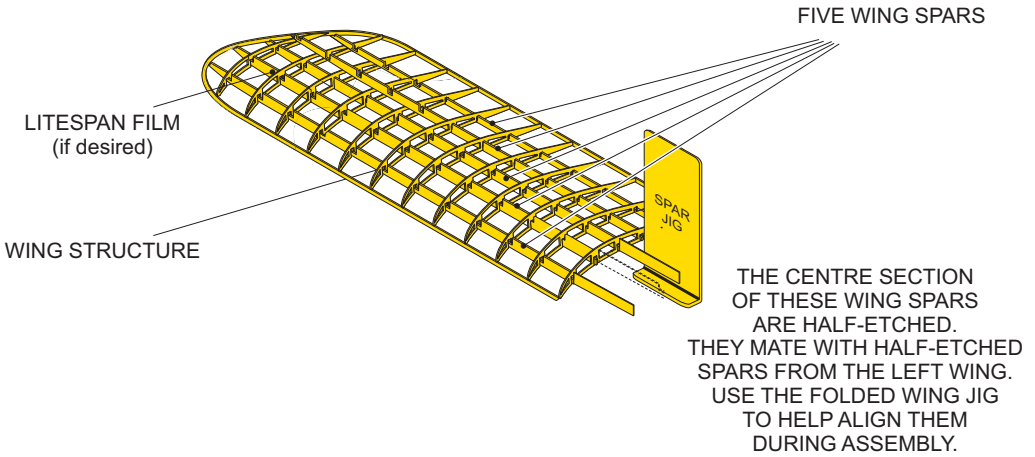

Figure 1
- C Engage the slots in the five spars in the slots in the ribs of each wing (see Figure 1). Make sure that they are symmetrical, then bond the wing spars in place.
- (1) Make sure that the slots are clear in the sides of the fuselage if it is covered with the Litespan film.
- (2) Remove the wing jig from the fret and remove any burrs from the parts.
- (3) Fold the wing jig (see Figure 1).
- (4) Slide the stubs of the two spars on each wing into the slots in the fuselage. Use the wing jig to align the stubs of the spars and bond them together.